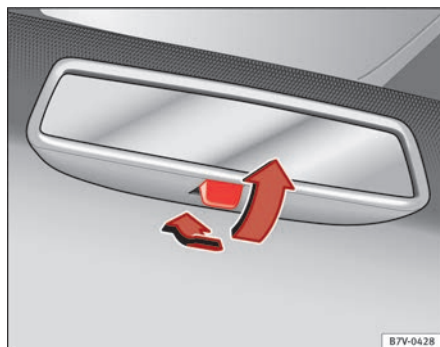

Fig. 72 Manual anti-dazzle function for rear vision mirror
- Pull the lever to the back to select the anti-dazzle function → fig. 72.